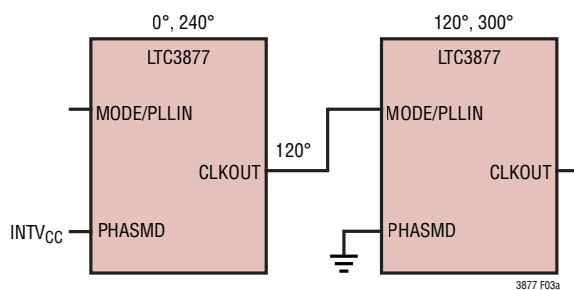
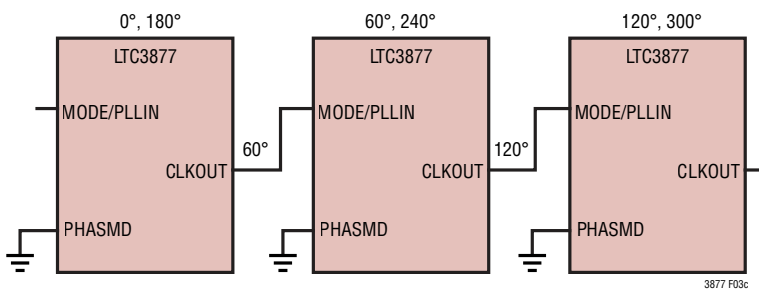

Figure 3a. 3-Phase Operation
Figure 3c. 6-Phase Operation
- Tie the CLKOUT pin of the Master IC to the MODE/PLLIN pins of the first Slave IC as shown in Figure 3a and 3b. If there is a second Slave IC, connect the first Slave's CLKOUT to the second Slave's MODE/PLLIN pin as shown in Figure 3c;